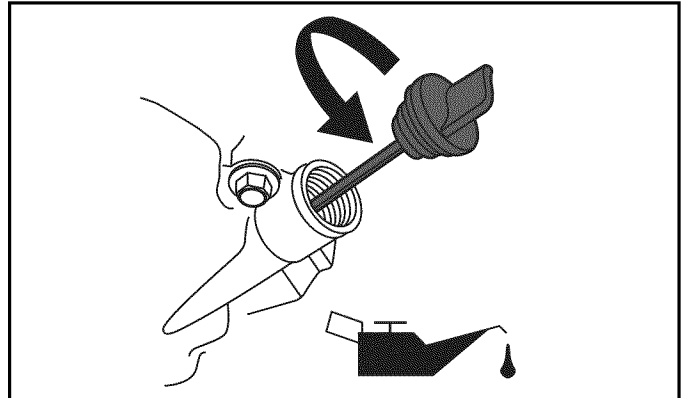

Figure 6-5. Fill Engine Oil
2. Clean area around oil fill and wipe dipstick clean remove oil fill cap (Figure 6-5).